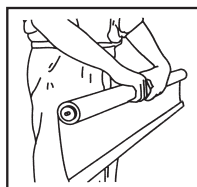

Fig. 4
2. Roll shade up by hand. (See Fig.4)